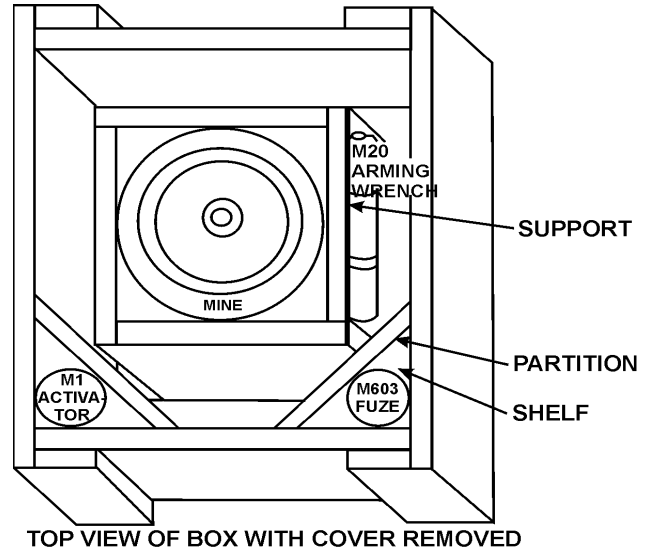

Figure 2-19. Packing box for mine M15 and M624, fuze M603, and activator M1.
- (1) Remove mine from packing box (fig. 2-19) and examine mine for dents, cracks, or other damage. If mine is damaged, set it aside and remove another mine.
- (1) Remove mine and arming wrench from packing box (fig. 2-19).
- (2) Inspect mine for serviceability. Check for cracks, dents, or other signs of damage. If damaged, replace with new mine. Mark and return damaged mine to supply.